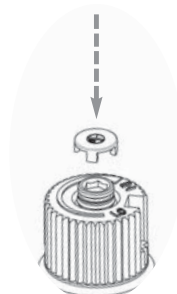

Fig.6
- 16) Re-assemble the black protection cap (Fig. 6).